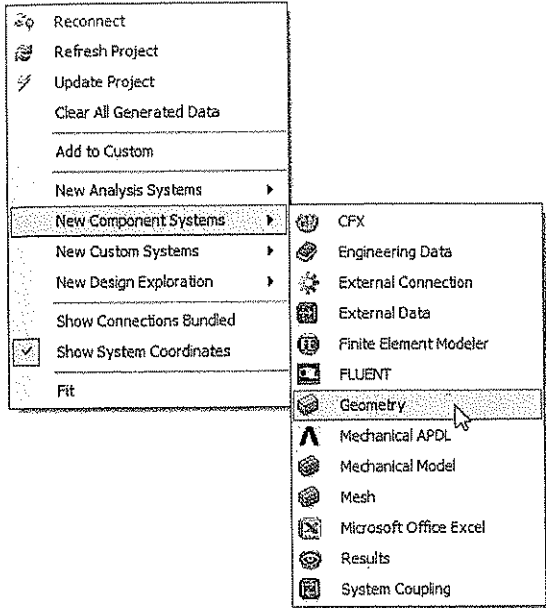

Figure 3-83 Choosing the Geometry option from the shortcut menu displayed on choosing the New Component System option
3. Right-click in the **Project Schematic** window and choose **New Component Systems > Geometry** from the shortcut menu displayed, as shown in Figure 3-83; the **Geometry** component system is added to the project and is displayed in the **Project Schematic** window.